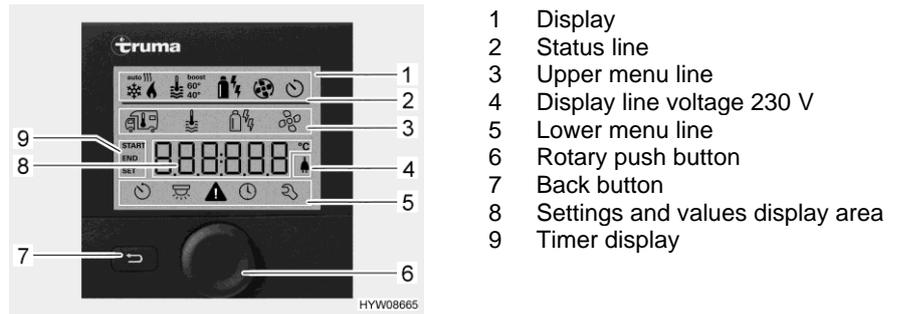
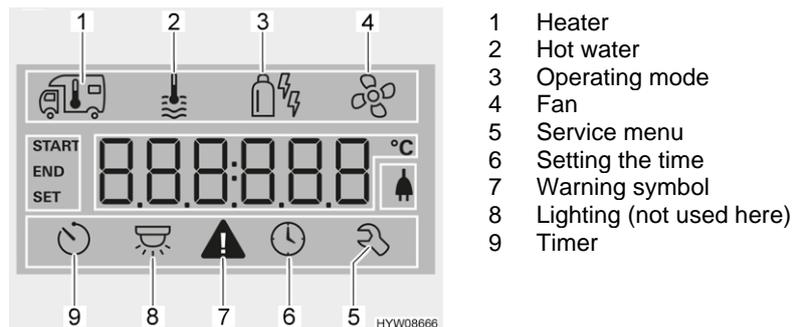

Fig. 108 Operating unit with displays
Fig. 109 Display (operating unit)
- Status line (Fig. 108,2)
- Upper menu line (Fig. 108,3)
- Display area (Fig. 108,8)
- Lower menu line (Fig. 108,5)
- Press and hold the rotary push button (Fig. 108,6) for approx. 3 seconds. Both menu lines (Fig. 108,3 and Fig. 108,5) are displayed. The first symbol flashes.
- Turn rotary push button (Fig. 108,6) until the required menu symbol flashes.
- Press rotary push button to save the value set. If you do not wish to change the value originally set: Press back button (Fig. 108,7).
- Turn rotary push button (Fig. 108,6) until the heater menu symbol (Fig. 109,1) flashes.
- Press rotary push button to save the value set. The symbol in the status line (Fig. 108,2) flashes until the room temperature set is reached. If you do not wish to change the value originally set: Press back button (Fig. 108,7).
- Turn rotary push button (Fig. 108,6) until the hot water menu symbol (Fig. 109,2) flashes.
- Press rotary push button to save the value set. The symbol in the status line (Fig. 108,2) flashes until the hot water temperature set is reached. If you do not wish to change the value originally set: Press back button (Fig. 108,7).
- Turn rotary push button (Fig. 108,6) until the menu symbol operating mode (Fig. 109,3) flashes.
- Press the rotary push button to save the set operating mode. To revert to the original setting: Press back button (Fig. 108,7).
- Turn rotary push button (Fig. 108,6) until the fan menu symbol (Fig. 109,4) flashes.
- Turn rotary push button (Fig. 108,6) until the timer menu symbol (Fig. 109,9) flashes.
- Press rotary push button. The timer is activated. The timer symbol (Fig. 109,9) flashes when the timer is programmed and active.
The warning symbol (Fig. 109,7) flashes in the event of a warning. The heater continues to operate. In the event of only a temporary fault, the warning symbol goes out automatically.